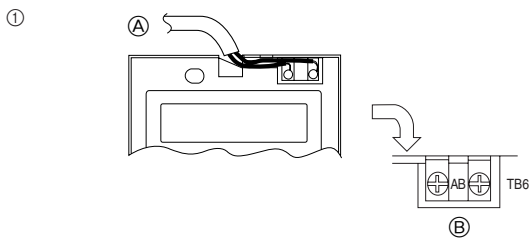

Fig. 5-4
2) Connecting procedures (Fig. 5-4)
- ① Connect the remote controller cord to the terminal block.